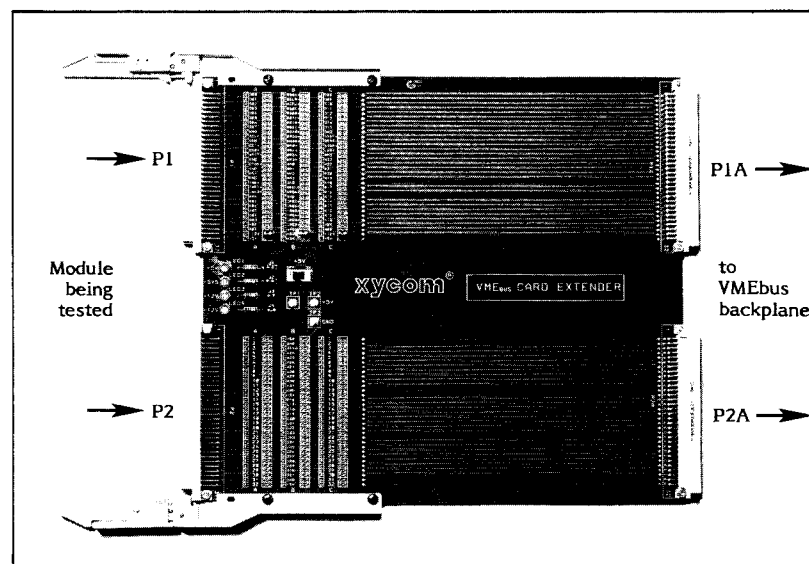

Figure 1-1. XVME-090 Extender Board
The XVME-090 can be installed in any double-high (NEXP) slot in a VMEbus backplane, and a VMEbus card to be tested is plugged into the front edge of the XVME-090 (see Figure 1-1). The two female connectors P1 and P2 on the front edge of the the Extender Board are identical to the VMEbus connectors on a VMEbus backplane.
2. Install the Extender Board in any double-high (NEXP-size) slot in a VMEbus chassis, just as you would any NEXP-size VME card (see Figure 1-1).